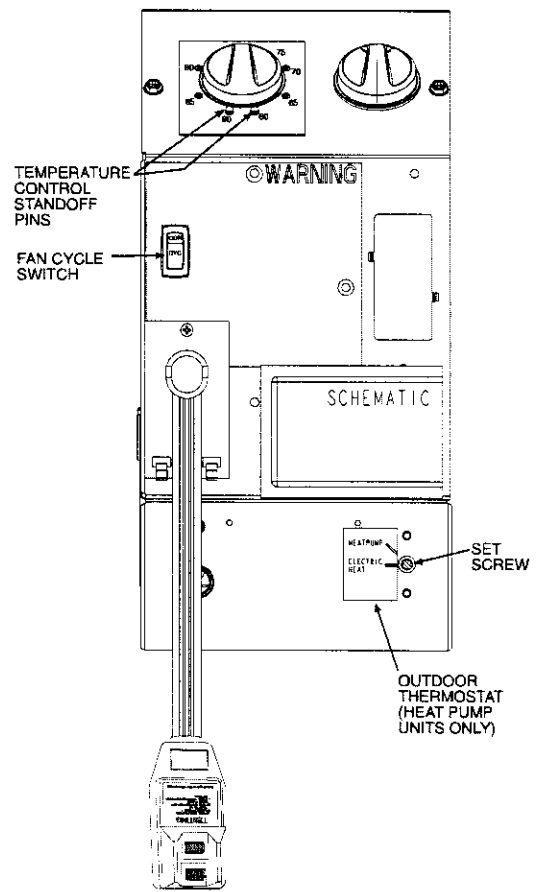

FIGURE 18 — OPERATING CONTROLS
■ **SETTING TEMPERATURE LIMITS** — Setting temperature limits on the unit provides the user a restricted range of temperature control. See Figure 18. **NOTE:** This adjustment is optional and is not applicable to remote control units.
The following controls are located on the front of the control box door, under front panel. To obtain access to operating controls, remove the unit front panel as shown on page 2. See Figure 18.
■ **OUTDOOR THERMOSTAT (52CQ and 52PQ HEAT PUMP UNITS ONLY)** — If the setscrew is left at the factory setting (in the heat pump position), the unit will operate in the reverse cycle heating mode. See Figure 18. When the temperature of the outdoor coil reaches 20 F (approximately 35 F outdoor air temperature), the compressor will shut down as unit is no longer capable of adequate heating in heat pump mode. The electric heater then becomes the primary heating source. The electric heater remains on until the temperature of the outdoor coil reaches 40 F; then the electric heater is shut off and the compressor is energized. Once the compressor is energized, the heat pump again becomes the primary heating source.
To set unit to operate in electric heat mode only, turn the setscrew to the electric heat position. See Figure 18.